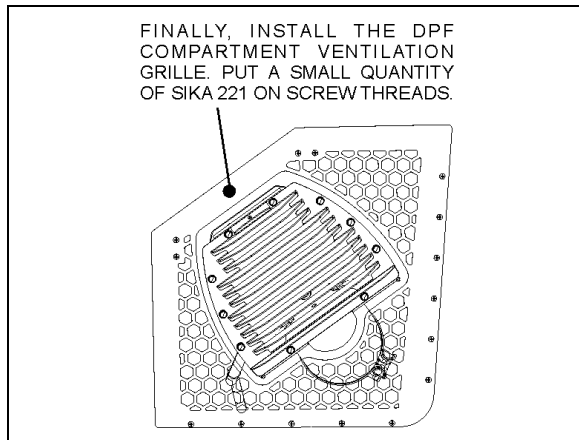

FIGURE 12: DIFFUSER POSITION ADJUSTMENT 04015\_3
5. Reinstall the DPF compartment grille. Put a small quantity of Sika 221 on screws (fig.12).